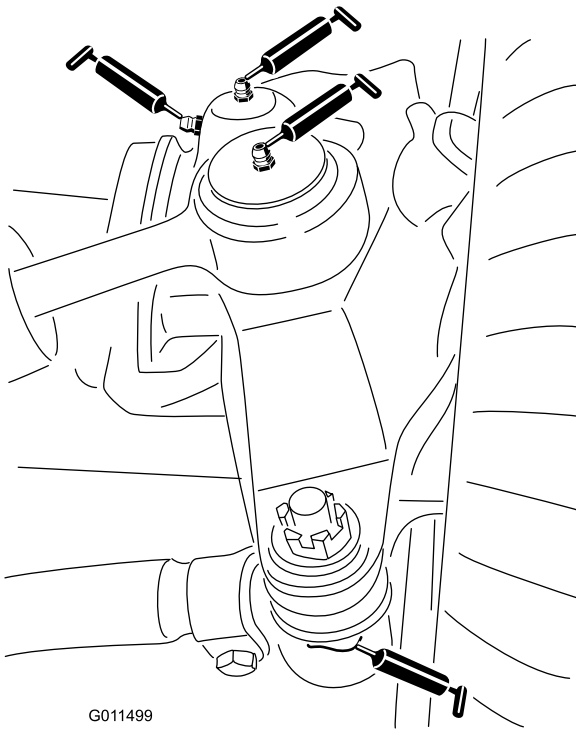

Figure 41
- 2 steering-cylinder-ball joints (Figure 41)
- 2 tie-rod-ball joints (Figure 41)
- 2 king-pin bushings (Figure 41).